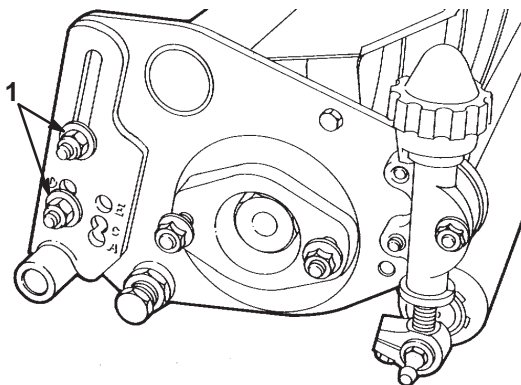

Figure 4
- After positioning the bolts into the correct height-of-cut hole position, install the flat washers and nuts and securely tighten the right-hand rear roller bracket capscrews (Fig. 4).